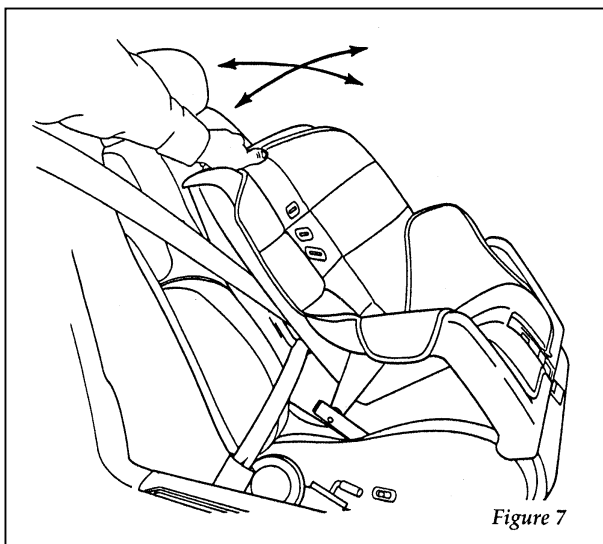

*Figure 5*
6. Allow the belt to retract. Pull up on the shoulder webbing. A clicking sound will be heard as the belt retracts. This indicates the retractor is in the automatic locking mode. Push down on the child seat while you pull up on the belt to remove any slack in the belt. Figures 5 and 6.
7. Grasp belt close to child seat and pull on the shoulder belt portion of the combination lap/shoulder belt, then allow the belt to retract and remove all slack to securely tighten the child safety seat in the vehicle. See Figure 5.